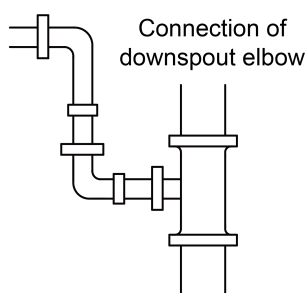

Fig 4.13
② : Connection of downspout elbow (Fig 4.13)